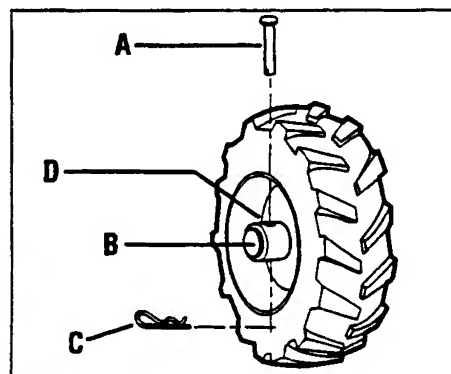

Figure 3-2: WHEEL DRIVE position.
Each wheel is equipped with a wheel drive pin (A, Figures 3-2 and 3-3) that secures the wheel to the wheel shaft (B). The wheels can be positioned in either a WHEEL DRIVE or a FREEWHEEL mode.
3. Remove hairpin cotter (C, Figures 3-2 and 3-3) from wheel drive pin (A).
4. FOR WHEEL DRIVE MODE (Figure 3-2): Slide wheel outward and align holes in wheel hub (D, Figure 3-2) and wheel shaft (B). Insert wheel drive pin (A) through